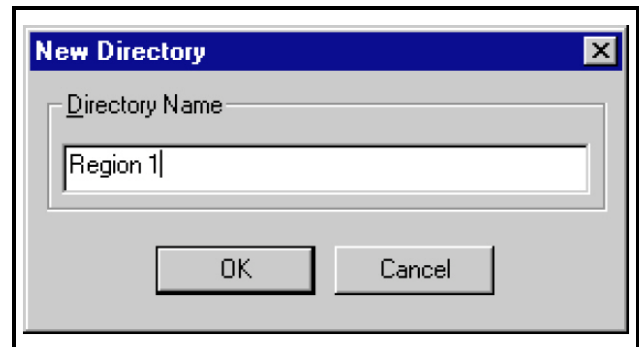

Figure 2-6 - New Directory Dialog Box
3. In the “New Directory” dialog box (*Figure 2-6*), enter “Region 1” in the Directory Name field.